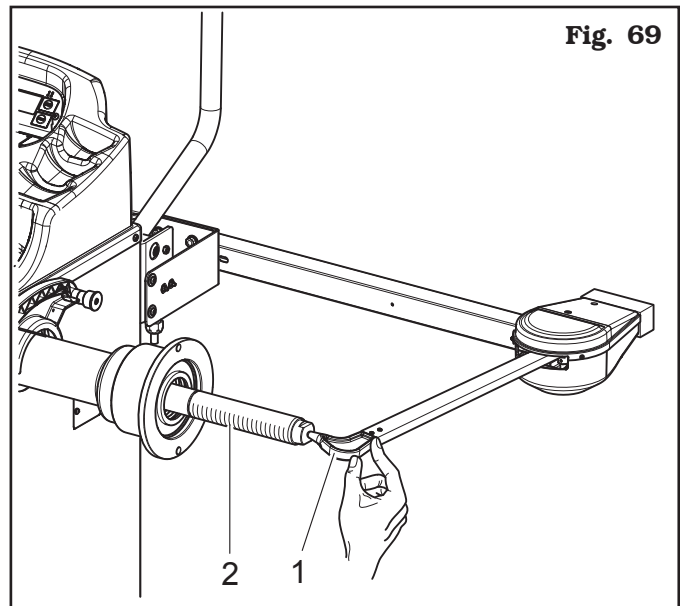

Fig. 69
Move the tip of the width measuring device (**Fig. 69 ref. 1**) by the mandrel end (**Fig. 69 ref. 2**), D2 display will show a bit value.
to confirm, otherwise in case you have an external data gauge (see **Fig. 69**) bring the gauge tip against the outer edge of the rim (see **Fig. 23**) and wait for a few seconds. The distance value measured previously will be displayed